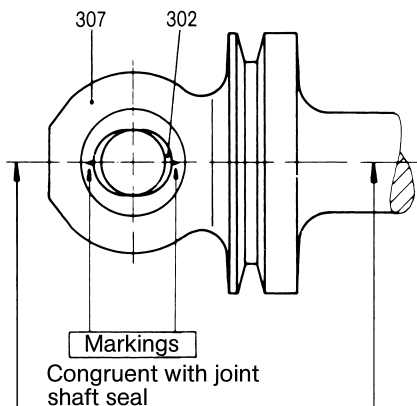

Figure 6: Pressing-in of the joint bush
- By means of a brass mandrel, drive half of the bushes for joint bolt (303) into the rotor (401) and the pump shaft (125).
- Press joint bush (302) into the joint shaft (307) so that the longitudinal axis of the oval bore hole (marked by two notches) coincides with the longitudinal axis of the joint shaft and the joint bush equally protrudes from both sides of the joint shaft (please refer to Figure 6 below - is not required in case of Size 12.2).